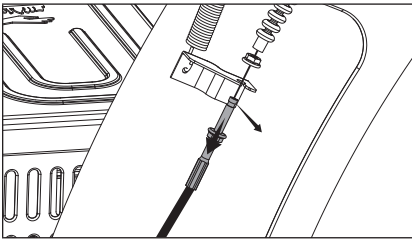

Figure 81
- Pull the cable downwards and remove the cable from the connector bracket on the chute. (Fig. 81)